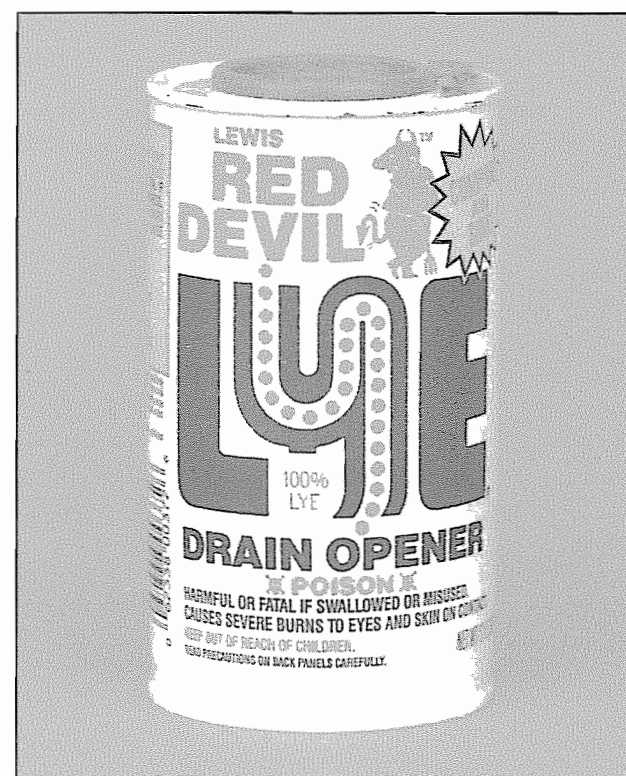

Figure 6-21. A 12 oz. can of "lye".
*Figure 6-21* is a photo of a 12 ounce can that I bought at a supermarket. At the time of this writing, a can like this costs about \$3.00. For larger quantities at lower prices, look for it at farm and feed supply stores under the generic name, **caustic soda**. Farmers and ranchers use it for everything from cleaning septic tanks to stripping old paint, and as of this writing, a 50 lb. bag costs about \$35.00.